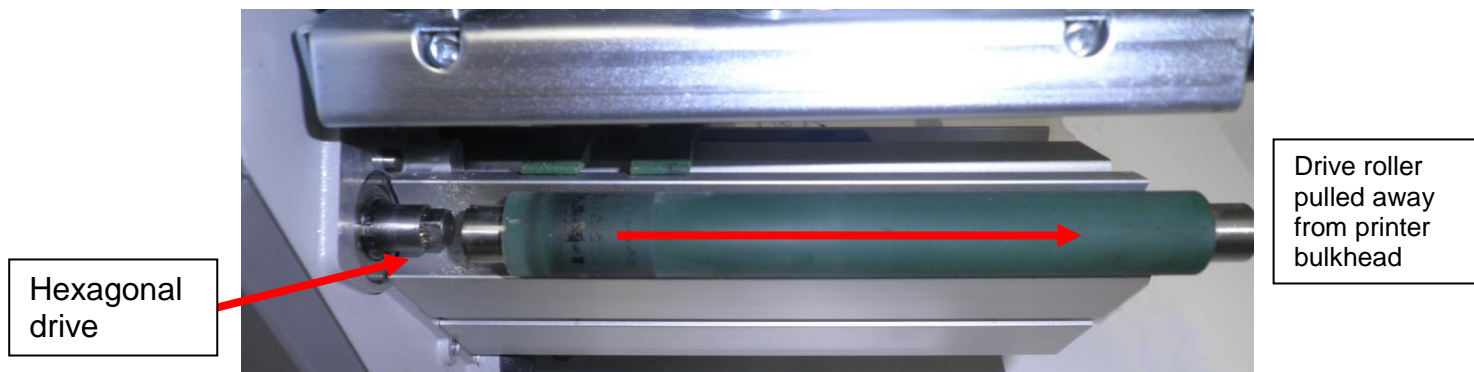

Figure 3 - Drive Roller removal
2.3. With the end plate removed the drive roller can be separated from the Hexagonal drive by gently pulling the drive roller laterally away from the printer bulkhead, see Figure 3.
3.3. With the end plates removed the drive rollers can be separated from the Hexagonal drive by gently pulling the drive roller laterally away from the printer bulkhead, see Figure 3.